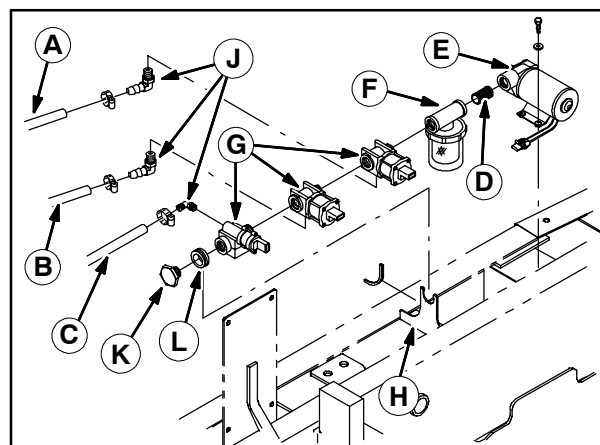

FIG. 1
1. Disconnect water lines (A), (B), and (C) from valves (G) and wire harness from water pump (E) and valves (G). **Do not** discard hose clamps. Refer to Fig. 1.
2. Remove water pump (E), strainer (F), valves (G), and grommet (K) from valve mounting bracket (H). Remove components as an entire assembly. **Do not** separate. Components are separated in later steps. **Do not** discard hardware used to secure these items to the machine. Refer to Fig. 1.
3. Remove the strainer (F) and valves (G) from the water pump (E). Refer to Fig. 1.
4. Remove fittings (J) from valves (G). Discard the fittings. Refer to Fig. 1.
5. Remove the valves (G) from the strainer (F). Do not separate the valves or remove the cap (K) from the end valve. Refer to Fig. 1.
6. Remove the plastic fitting (D) from the water pump (E). Discard the plastic fitting. Refer to Fig. 1.